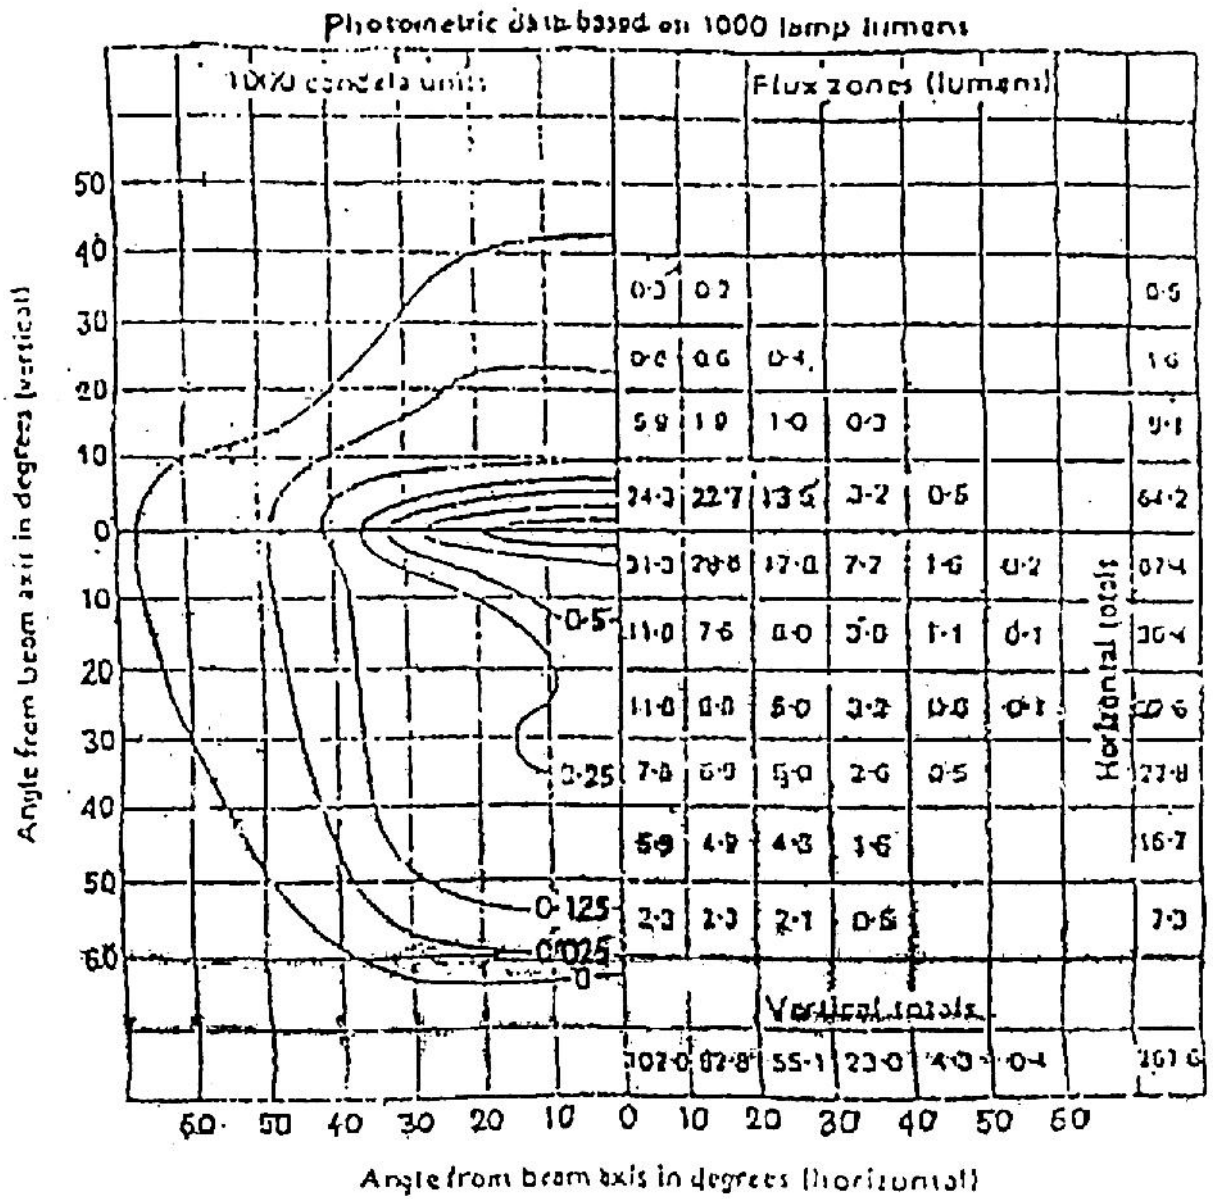

Fig. 1 Zonal flux and isocandela diagrams for floodlighting.
1. A rectangular area of 44m×36m dimension is illuminated by placing four poles at the middle of each side of the area. The poles are of 15 m height and each of them carries 8x400W SON floodlights. Each pole is located 1.0m outside the boundary line of the area. Using the given zonal flux diagram of Fig. 1, and showing each step clearly, find out the followings:
Photocopy of Fig.1 is attached , submit this.